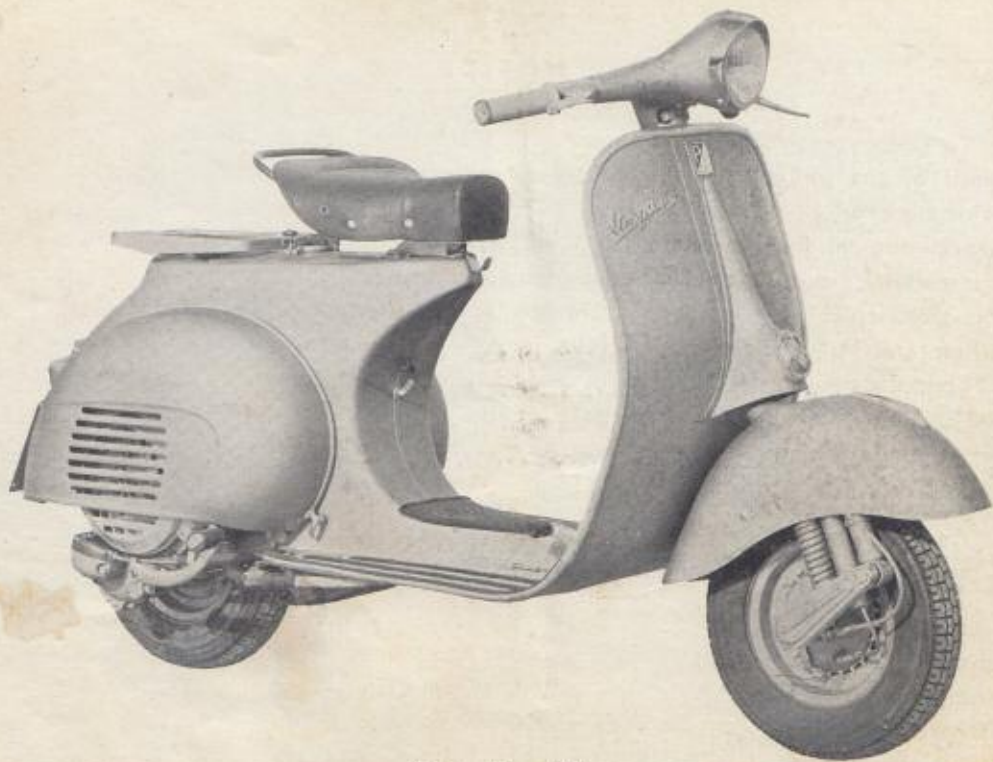

Fig. 1 - Vespa 150
**Stressed skin body** of pressed steel sheet, (see Fig. 1), with streamlined, monocoque type structure. It gives full protection to the driver, to the passenger and to the machine units; it is completed in this function by the mudguard and, on the two sides, by the steel sheet engine bonnet and tool box.